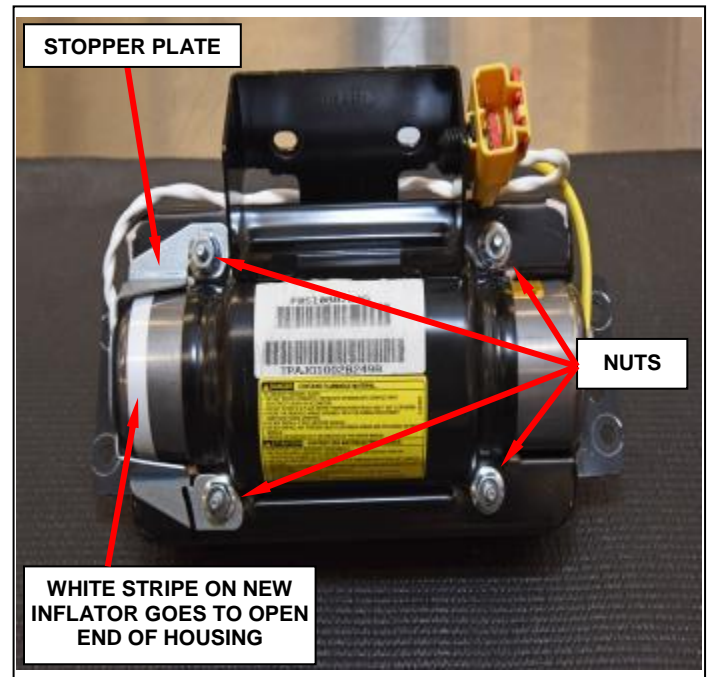

Figure 85 – Stopper Plate and Nuts
i. Position the stopper plate to the airbag housing (Figure 85).
j. Install the four **NEW** mounting nuts to the airbag housing and tighten to 62 in. lbs. (7 N·m) (Figure 85).